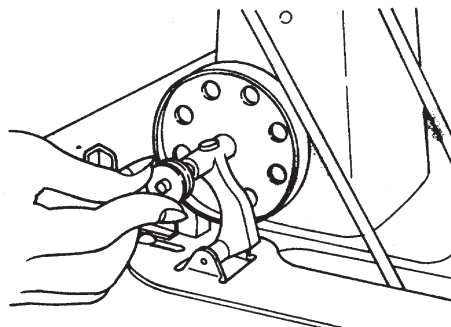
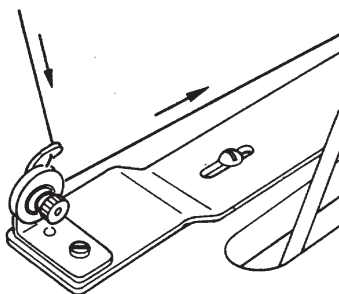
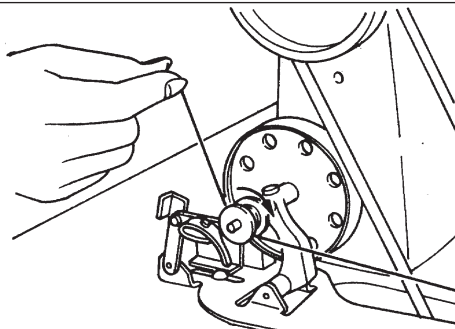
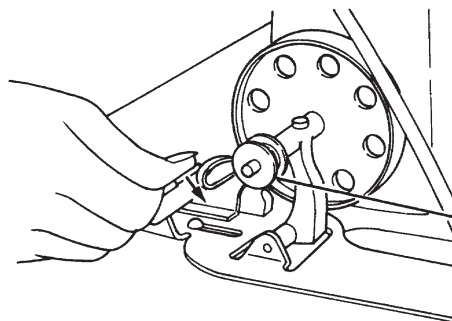

Fig. 13 ① Inserting the bobbin to the pulley shaft
Fig. 14 ② Between the tension discs
Fig. 15 ③ Wind it around the bobbin
Fig. 16 ④ Knock down the trip latch
① First, insert the bobbin into the pulley shaft as far as it goes. (Fig. 13). ② Pull out the thread from the thread spool, pass it through the eyelet of the thread tension bracket, wind it from the opposite side of the 2 tension discs toward the operator. (Fig. 14). ③ Then wind it 3—4 times around the bobbin from under side. (Fig. 15). ④ If the trip latch is knocked down, forward, with the thumb, the bobbin winder will contact the belt. (Fig. 16).